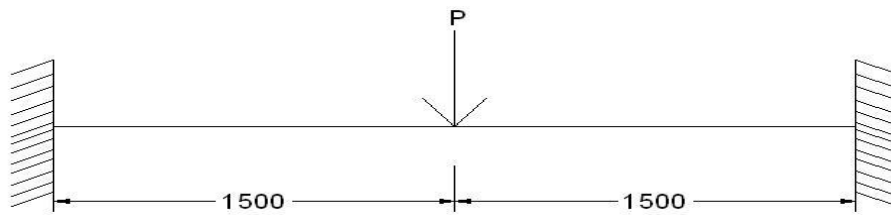

Figure 2
- (b) A concentrated load $P = 50 \text{ kN}$ is applied at the centre of a fixed beam of length 3m, depth 200mm and width 200mm. Calculate deflection and slope at the midpoint. Take $E = 2 \times 10^5 \text{ N/mm}^2$ and figure 2 shown below. (16)